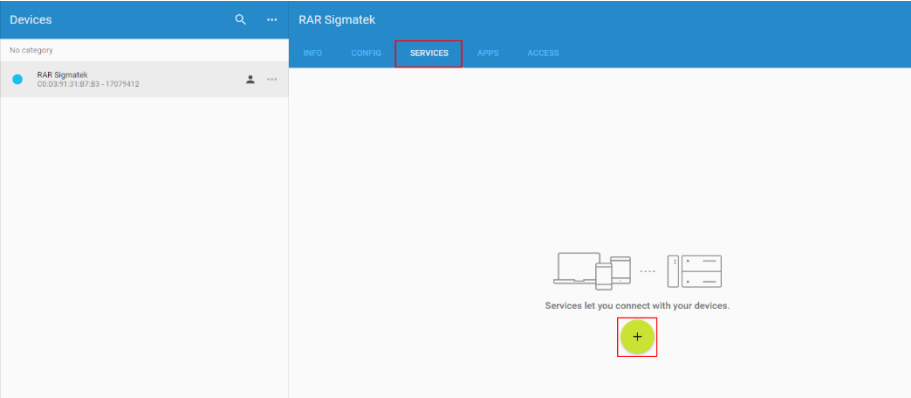

Figure 5.54 Adding a new service to the device.
1. From the RAP main menu, select Devices and click on the relevant remote device (Figure 5.54).